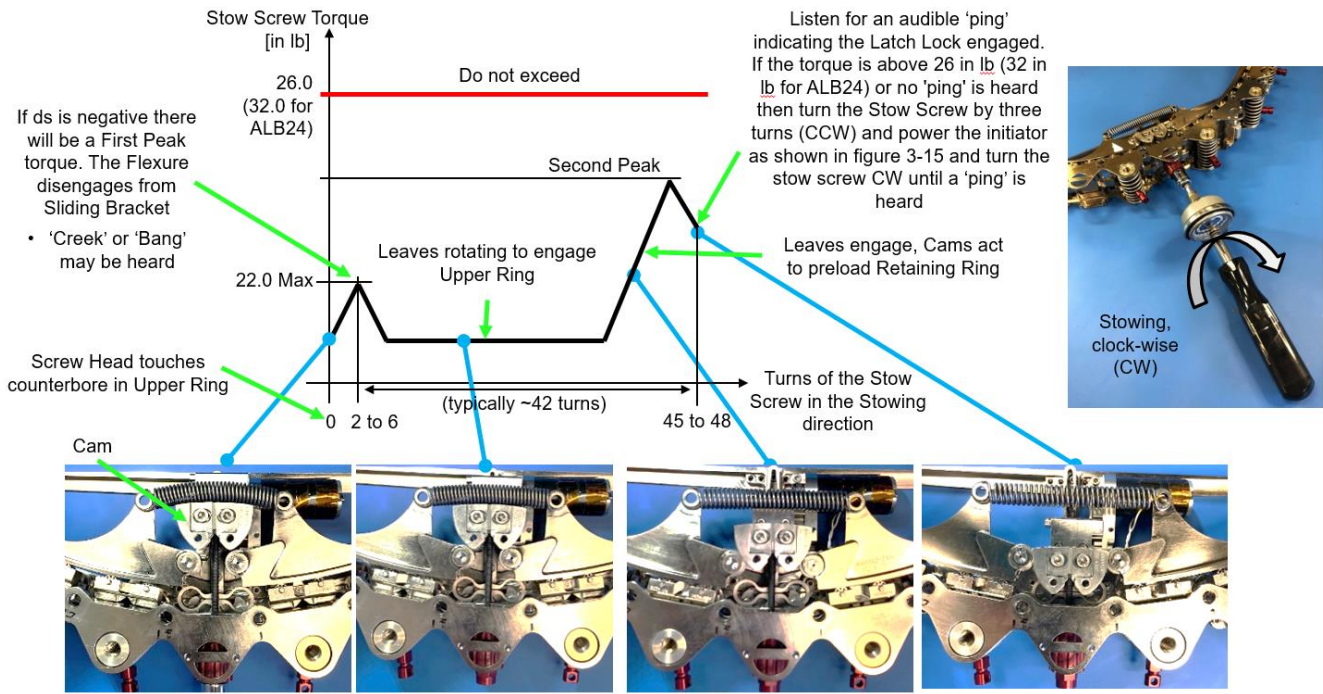
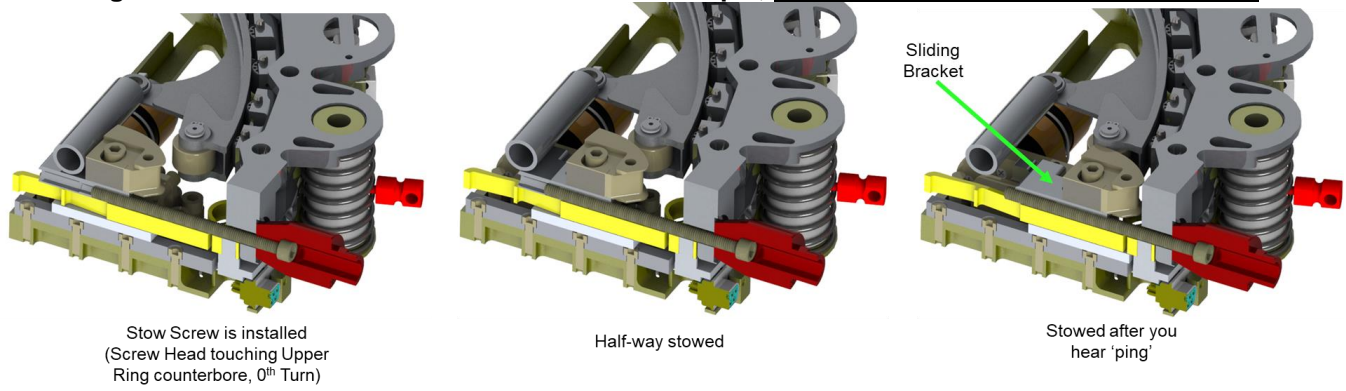
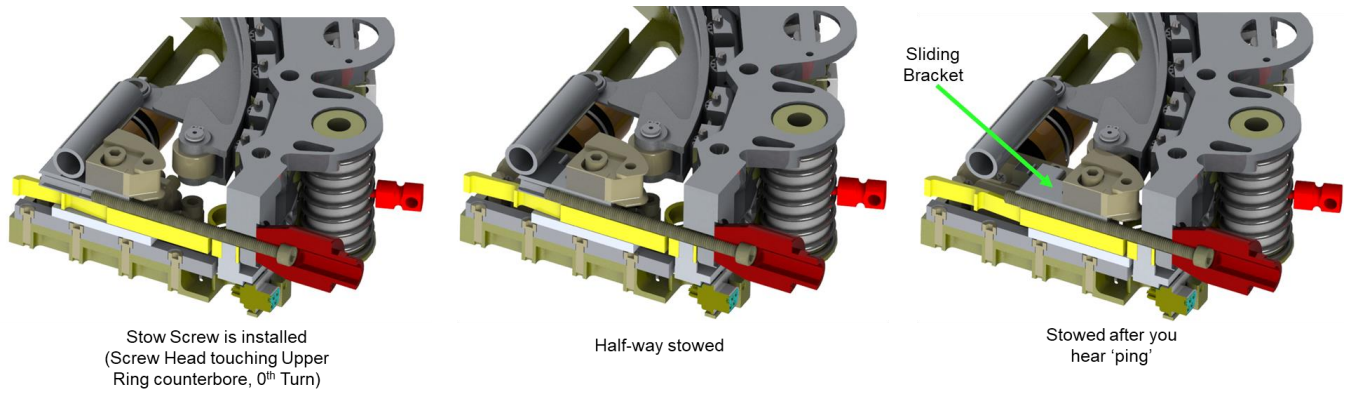
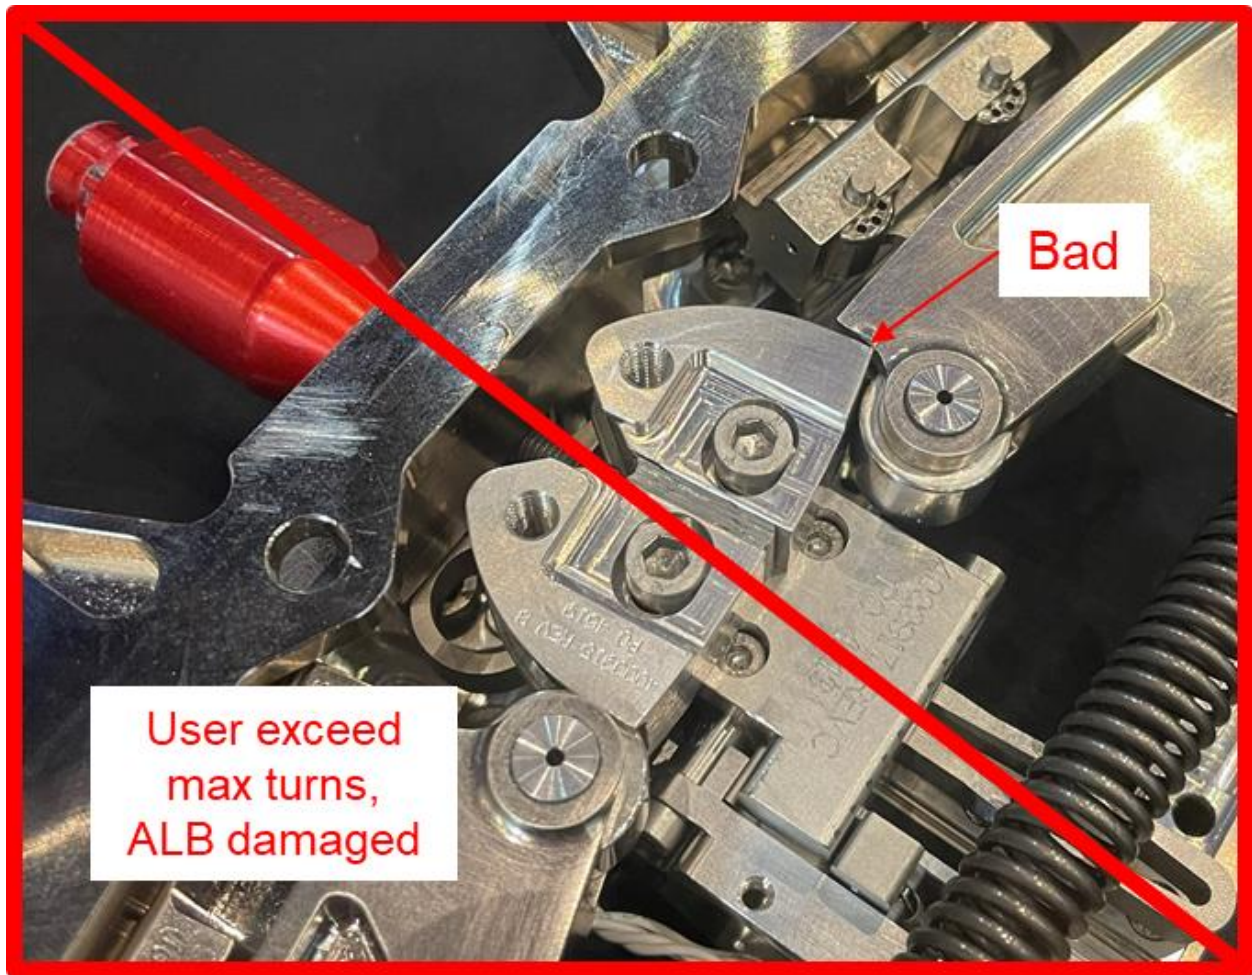

Figure 11-1: Stow Screw turns vs. Stow Screw torque, ds less than .075 in (-.135 in to .075 in)
Figure 11-2: Sectional view of stowing
Figure 11-4: Sectional view of stowing
Figure 11-5: Over-stowed ALB
11.2.2	<p>Figure 11-1 shows expect torque vs turns profile.</p> <p>. Turn Stow Screw into the sliding bracket until the Screw Head is just touching Upper Ring. This is the 0th turn. See Figure 11-2.</p> <p>Verify the Stow Screw threads are sufficiently engaged with Sliding Bracket by remeasuring and depth from the top of the hex head of the Stow Screw to the threaded rod. Record depth below. Calculate Thread Disengagement by subtracting this depth from the initial depth measured in Step 10.1.5. Verify Thread Disengagement < .05".</p> <p>New Threaded Rod Depth [in]: _____</p> <p>Thread Disengagement [in] = Depth from 10.5.1 – New Depth = _____</p>
11.2.4	<p>Continue to turn the Stow Screw clockwise while counting turns until either an audible “ping” is heard, the maximum stow torque determined in step 11.1.1 is reached, OR the maximum number of turns determined in step 11.1.1 is reached. See Figure 11-2.</p> <p>Do NOT exceed maximum number of turns or maximum stow torque. Doing so may detrimentally damage the ALB. See Figure 11-5.</p>
11.3.2	<p>Figure 11-1 shows expect torque vs turns profile.</p> <p>Turn the Stow Screw and ensure the Screw is threading into the Sliding Bracket and the Stow Screw Head is not just spinning on the threads. Turn Stow Screw until the Screw Head is just touching Upper Ring. This is the 0th turn. See Figure 11-2.</p> <p>Verify the Stow Screw threads are sufficiently engaged with Sliding Bracket by remeasuring the depth from the top of the hex head of the Stow Screw to the threaded rod. Record depth below. Calculate Thread Disengagement by subtracting this depth from the initial depth measured in Step 10.5.1. Verify Thread Disengagement $< .05$".</p> <p>New Threaded Rod Depth [in]: _____</p> <p>Thread Disengagement [in] = Depth from 10.5.1 – New Depth: _____</p>
11.3.3	Turn the Stow Screw clockwise while counting turns until either an audible “ping” is heard, the maximum stow torque determined in step 11.1.1 is reached, OR the maximum number of turns determined in step 11.1.1 is reached. See Figure 11-4. Do NOT exceed maximum number of turns or maximum stow torque. Doing so may detrimentally damage the ALB. See Figure 11-5.